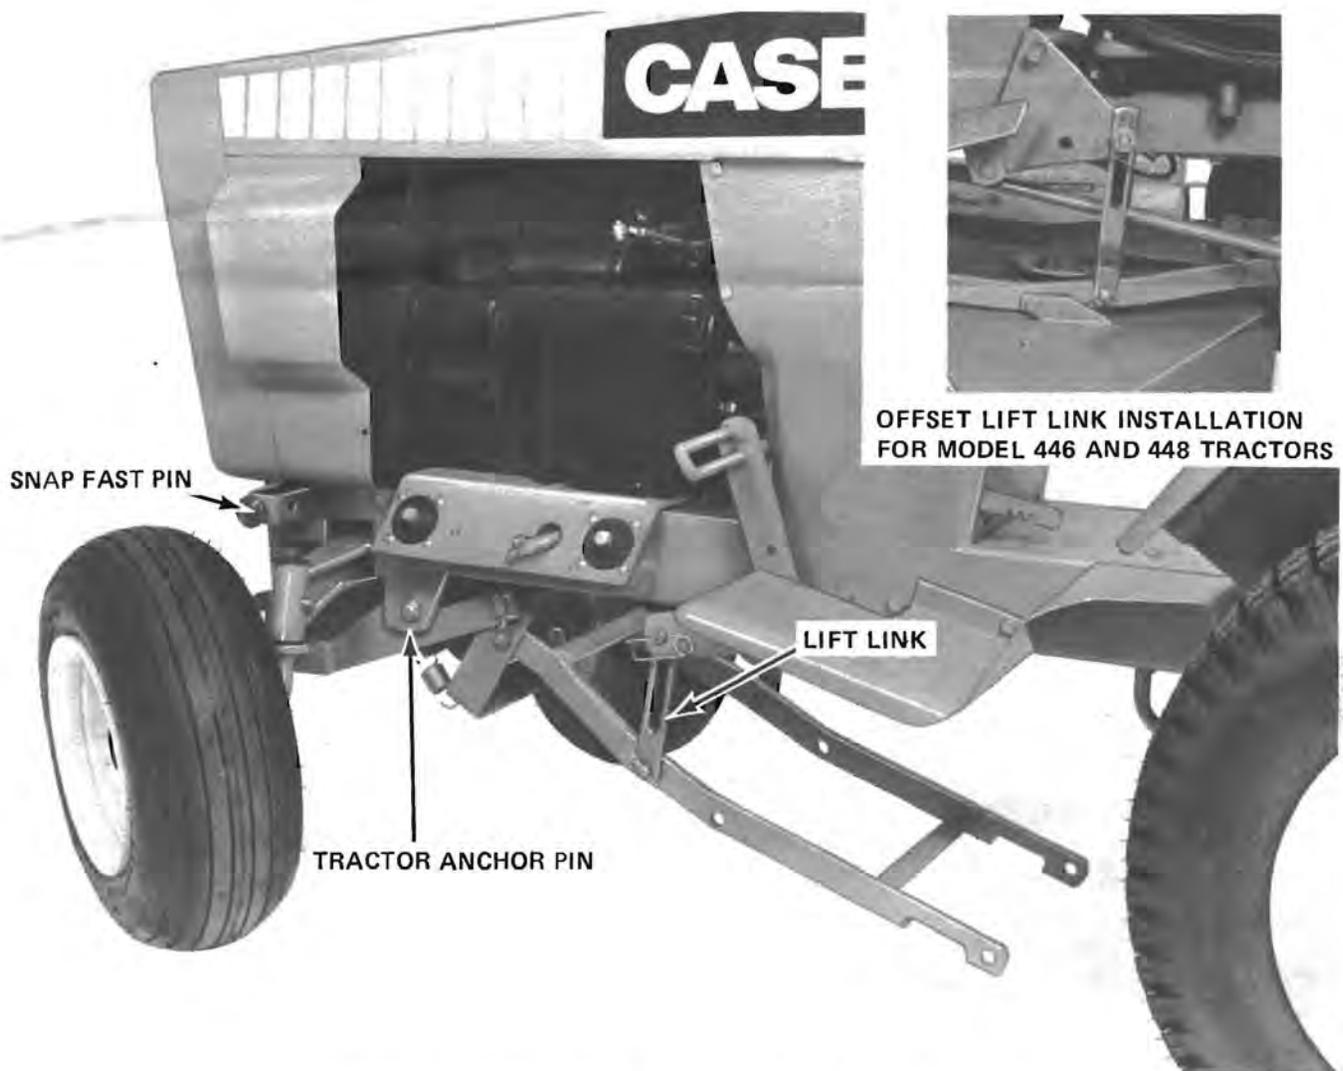

FIGURE 15 MOUNTING THE K44 MOWER MOUNTING BRACKET
3. See Figure 15. Put the mounting bracket under the front of the tractor. Raise and install the mounting bracket on the mounting pins. Align the holes in the mounting bracket with the "snap fast pins". Release the "snap fast pins" to hold in place.
4. Completely lower the lift arms on the tractor. On all models except the 446 and 448, put the lift links on the inside of the lift arm. See Figure 15. Put a plain washer on the clevis pins. From the inside install: